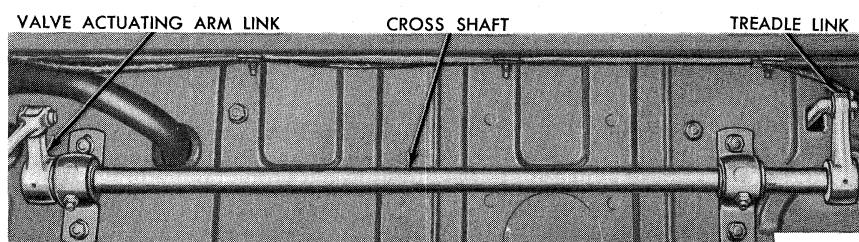

FIG. 9—Control Valve Linkage Cross Shaft—H-Series
by an actuating arm connected to a clevis rod which is, in turn, connected through a link to a cross shaft (Fig. 9). The treadle link on the opposite end of the cross shaft connects to a clevis rod that is fastened to the brake treadle (Fig. 10).
3. Mark the position of the slack adjuster on the camshaft, then remove the slack adjuster (Fig. 9).